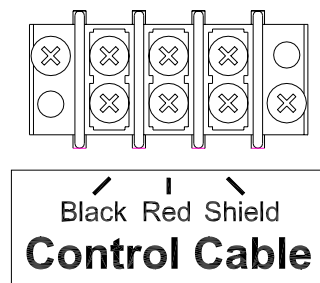

Figure 10 Control Cable Wiring Diagram
3. Connect the control cable to **Control Cable** terminal block on the junction chassis according to figure 10.